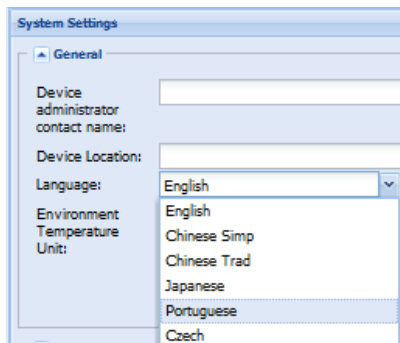

Figure 77. Change Language on System Settings Page
4. To change the language, select a language from the drop down list (see Figure 77).